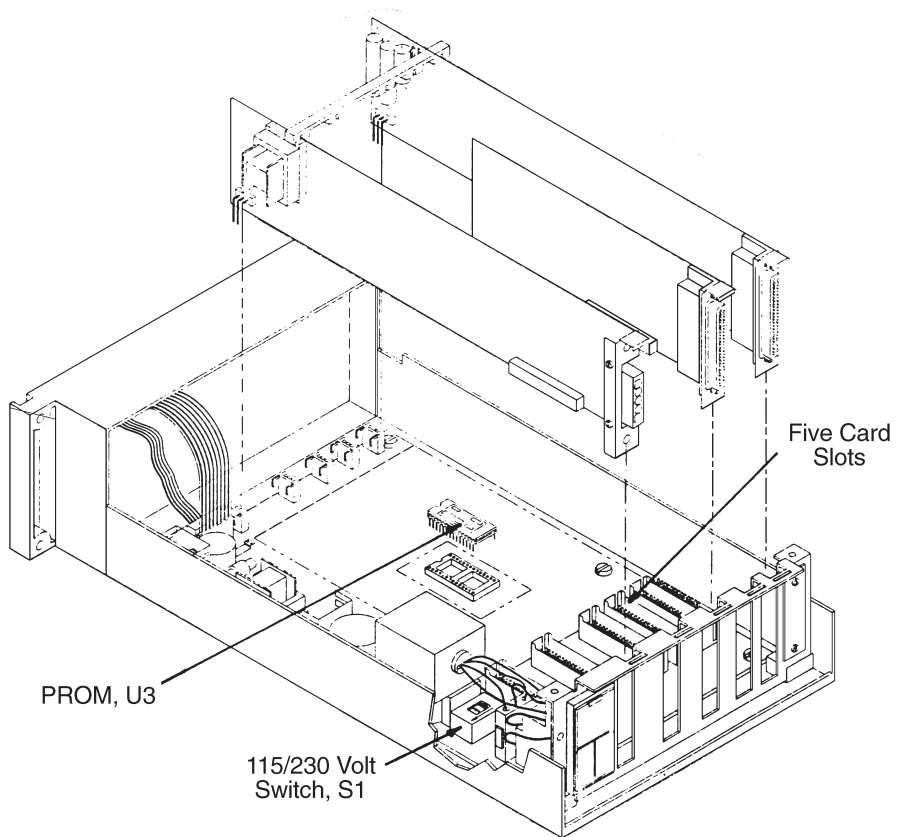

Figure 2-2. Installing the Option Boards and the Spacer/Retainer
- 3 Install the optional printed circuit boards by plugging them into any or all of the five board slots as shown in Figure 2-2. Although the boards can be inserted in any slot, Varian recommends that high-profile boards (those whose components are greater than $\frac{3}{4}$ inch tall) are plugged into the three more widely spaced slots. This will allow installation of a full complement of boards as well as make future upgrades easy.
- 5 If more than one full-length board is plugged in, press the printed circuit board spacer/retainer onto the top edge of the boards as shown in Figure 2-2. This will prevent the boards from touching one another and will hold them securely in the unit when the cover is in place. The spacer is not to be used if only one full-length board is plugged in.